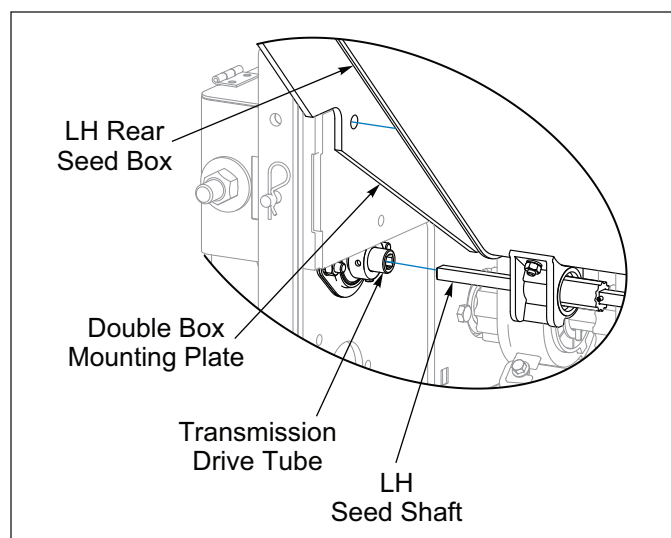

Figure 2-56: Rear Box Seed Shaft
12. Support LH Rear Seed Box. Align and insert Rear Seed Box 3/8" Square Seed Shaft into Transmission Drive Tube. Seed Shaft should be free to rotate. **See Figure 2-56.**